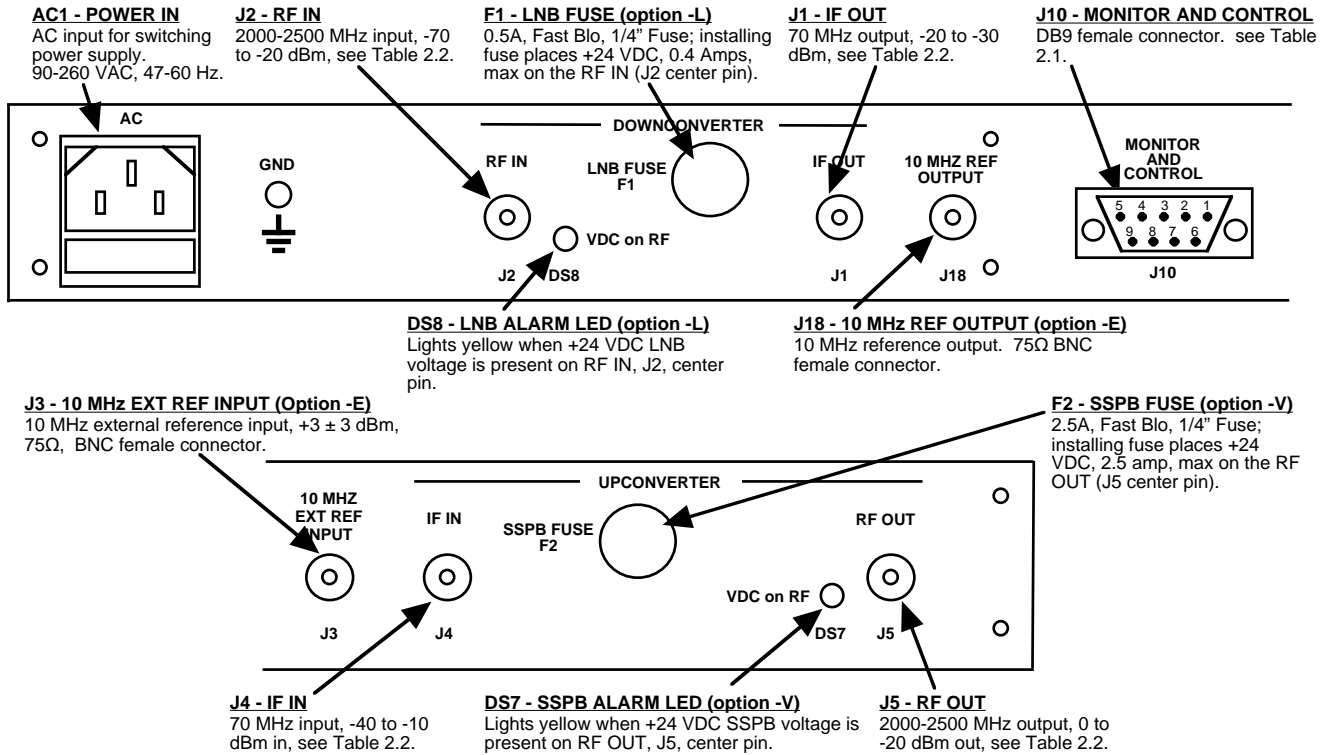

Figure 2.1 Model 2017-25 Rear Panel I/O's
2.2 Rear Panel Input/Output Signals and Control - Figure 2.1 shows the input and output connectors on the rear panel.
- 1.) Connect a -10 dBm to -40 dBm signal to IF In, J4 (Figure 2.1).
- 1.) Connect a -70 dBm to -20 dBm signal to RF In, J2 (Figure 2.1).